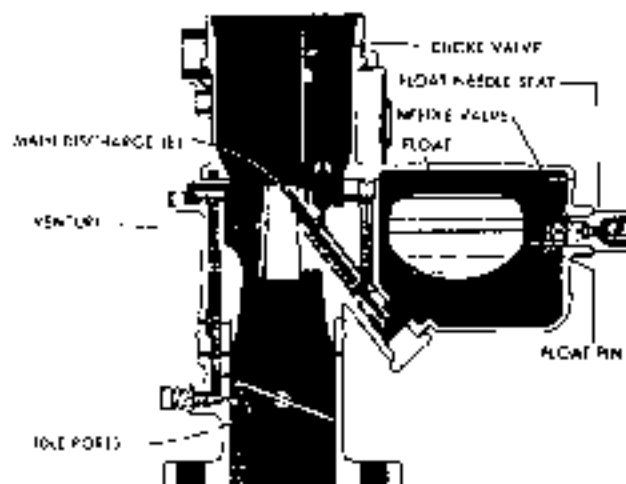

FIG. 246.—FLOAT SYSTEM
• The Stromberg Carburetor used on the Commander employs six systems during the full range of its operation. Figures 246 through 251 name and fully illustrate these systems.